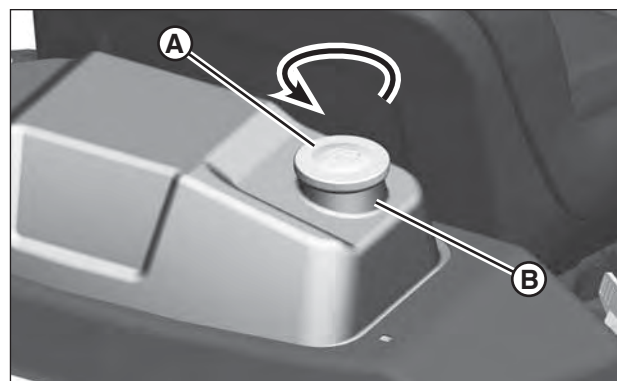

Figure 2: Fuel cap
1. Clean the fuel cap area of dirt and debris. Remove the fuel cap (A, Figure 2).
2. Fill the fuel tank with fuel. To allow for expansion of the fuel, do not fill above the bottom of the fuel tank neck (B).